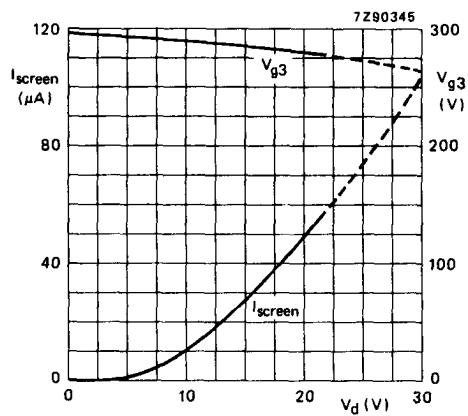

Fig. 5 Screen current (I_{screen}) and focusing voltage (V_{g3}) as a function of grid drive voltage (V_d); typical curves.
5. An actual focus range of 30 V should be provided on the front panel. V_{g3} decreases with increasing grid drive (see also Fig. 5).
6. Intensity control on the front panel should be limited to the maximum useful screen current (approx. 50 μ A; see also Fig. 5). It is to be adjusted either by the grid drive (up to 22 V) or for maximum acceptable line width. The corresponding cathode current or $I_{g2, g4}$ (up to 500 μ A) depend on the cut-off voltage and cannot be used for control settings.